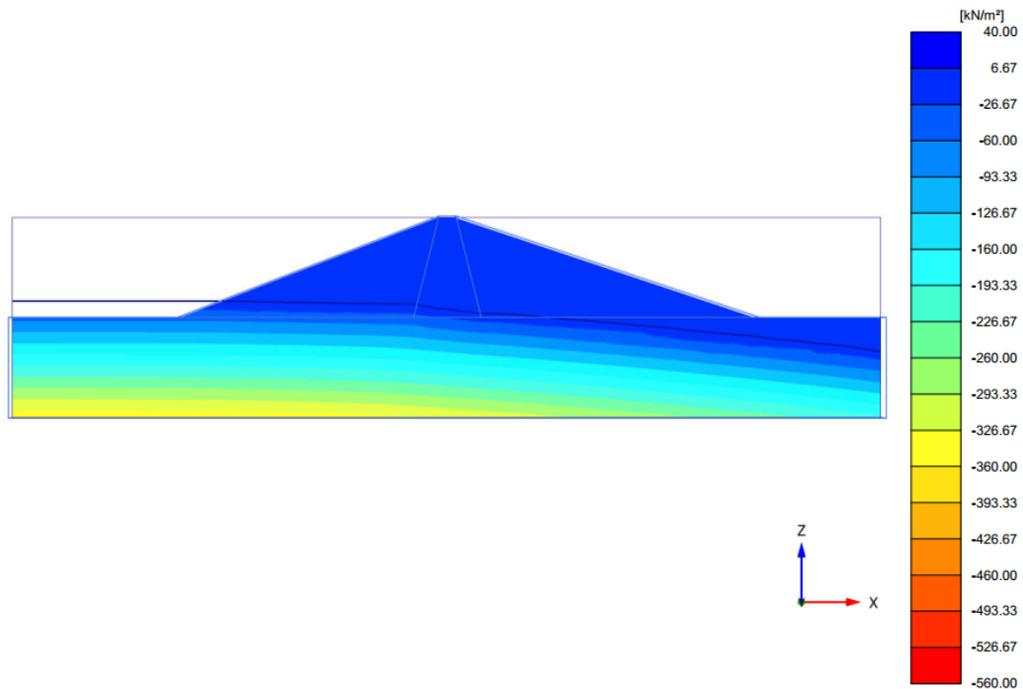

Figure 115: Pore water pressure distribution for low reservoir level (Phase_3)
- The situation with a low reservoir level - See Figure 115 (on page 142).